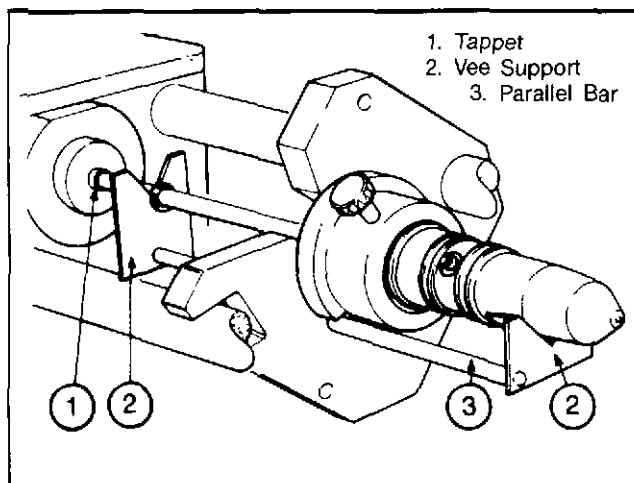

Fig. 2-51. Load the injector into the test stand
3. To load the injector, raise the guard. Place the injector, adapter and link in position, Fig. 2-51.